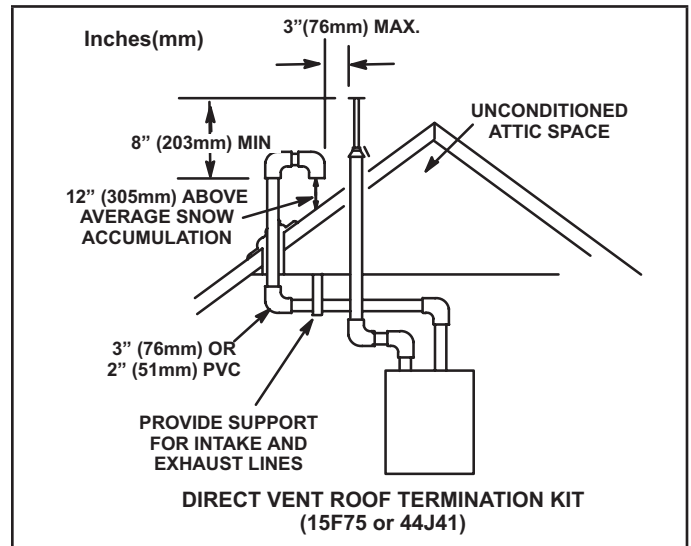

FIGURE 37
Intake and exhaust pipes may be routed either horizontally through an outside wall or vertically through the roof. In attic or closet installations, vertical termination through the roof is preferred. FIGURE 37 through FIGURE 44 show typical terminations.
- 3 - On roof terminations, the intake piping should terminate straight down using two 90° elbows (FIGURE 37).